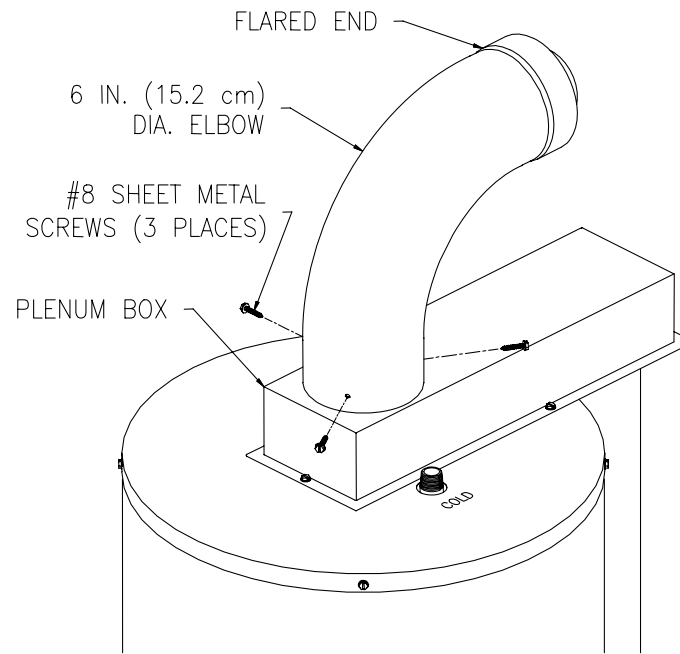

Figure 10.
6. Place the straight end of the six (6) inch (15.2 cm) diameter elbow over the four (4) inch (10.2 cm) diameter elbow and plenum collar until seated on top of the plenum box. Make certain that the six (6) inch (15.2 cm) diameter elbow is oriented in the same direction as the four (4) inch (10.2 cm) diameter elbow and both are oriented in the correct direction. Drill three (3) 1/8 inch (3.2 mm) diameter holes, 120° apart, through the six (6) inch (15.2 cm) diameter elbow into the plenum collar. Fasten with three (3) #8 sheet metal screws (supplied) (See Figure 10).